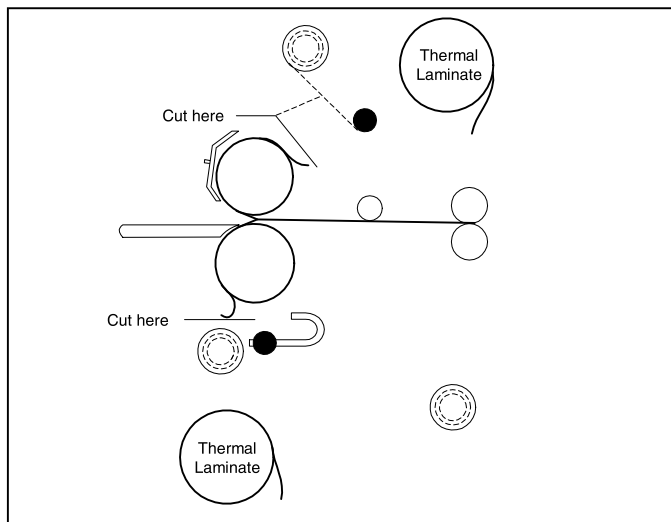

Fig. 35
5. Cut remaining top and bottom film webs between supply rolls and heat rollers (Figure 35). PSA film, cut the release liner too. **Be careful not to cut any of the rollers!**